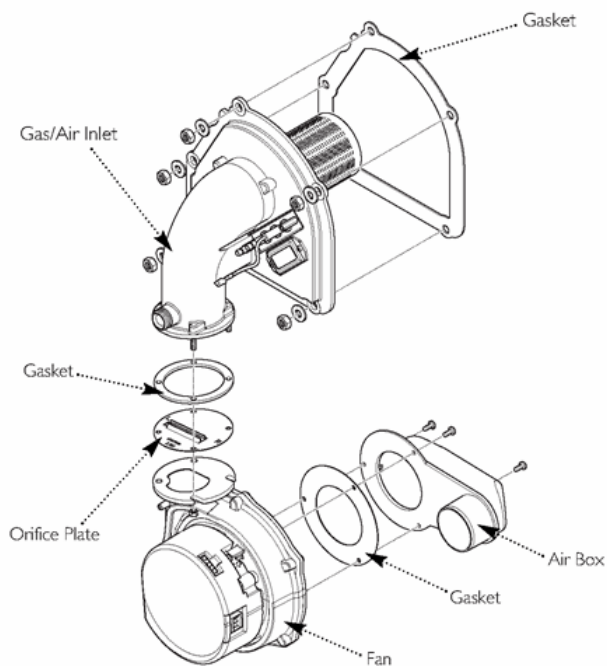

Fig. 81
4. Undo the five retaining nuts and washers and remove the fan, gas/air inlet and burner assembly (Fig. 81).
6. Remove the four nuts and separate the fan from the gas/air inlet. Note the position of the orifice plate and examine the gasket, replacing if necessary (Fig. 81).